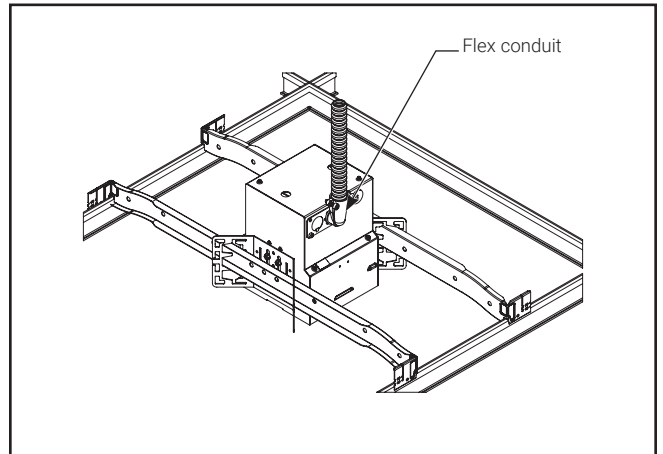

Figure 4.
- Fix flex conduit to access plate and then fix access plate to housing with #8-32 screws. (Figure 4)